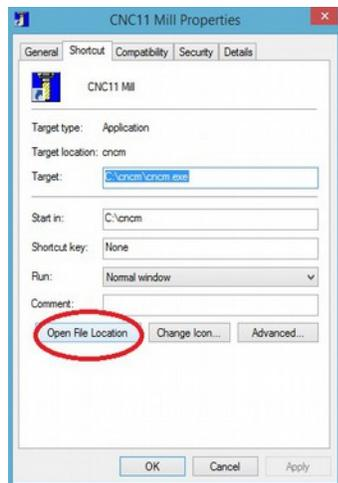

Figure 6.7.2
4. In the shortcut tab, click on **“Open File Location”** as shown in Figure 6.7.2.